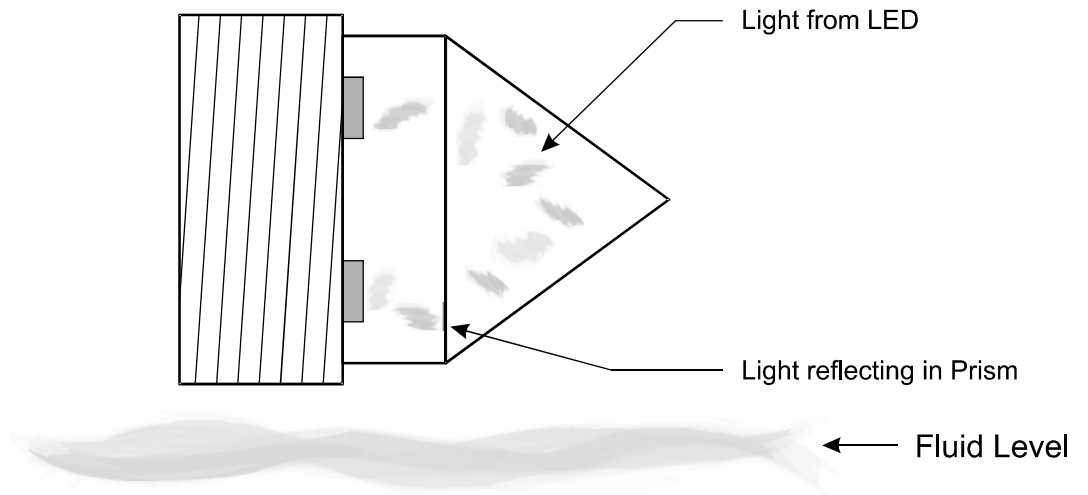

Figure 1
- When the oil is below the level of the sensor (See Fig. 1.) light from the LED reflects off the prism and is picked up by the receiver. This signal shuts the compressor off.